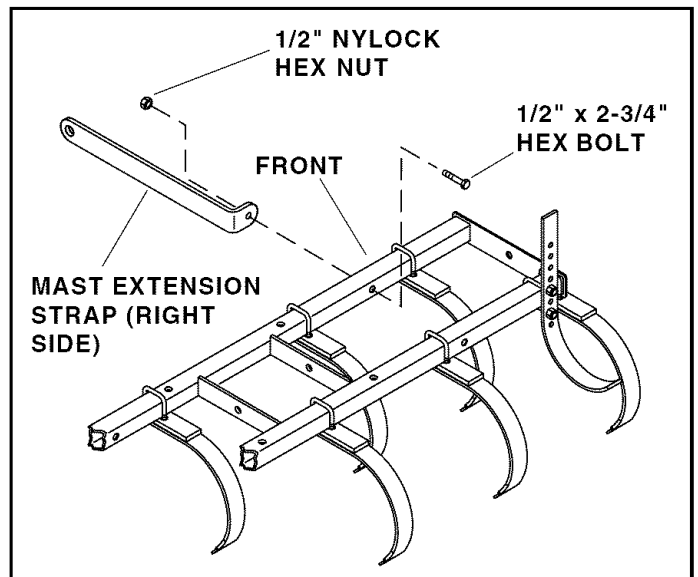

FIGURE 3
3. Attach two mast extension straps to the front of the frame using two 1/2" x 2-3/4" hex bolts and two 1/2" Nylock hex nuts. Point the bent end of each strap toward the outside of the frame. **Do not tighten yet.** See figure 3.